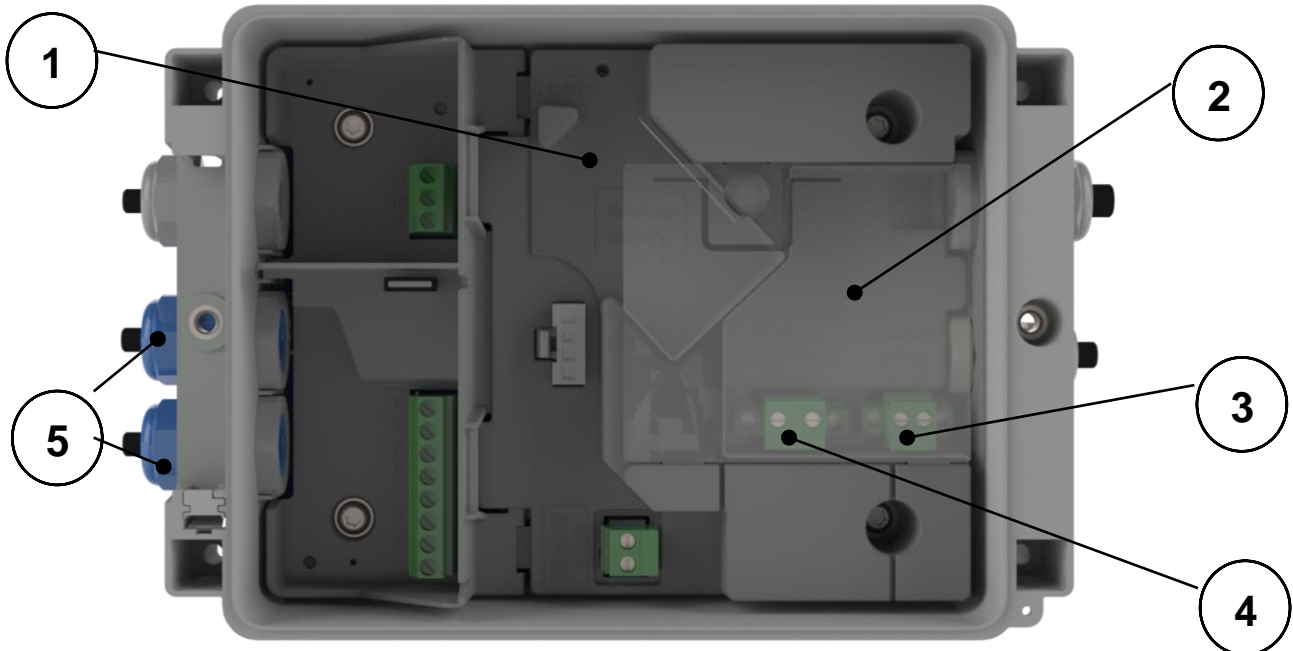
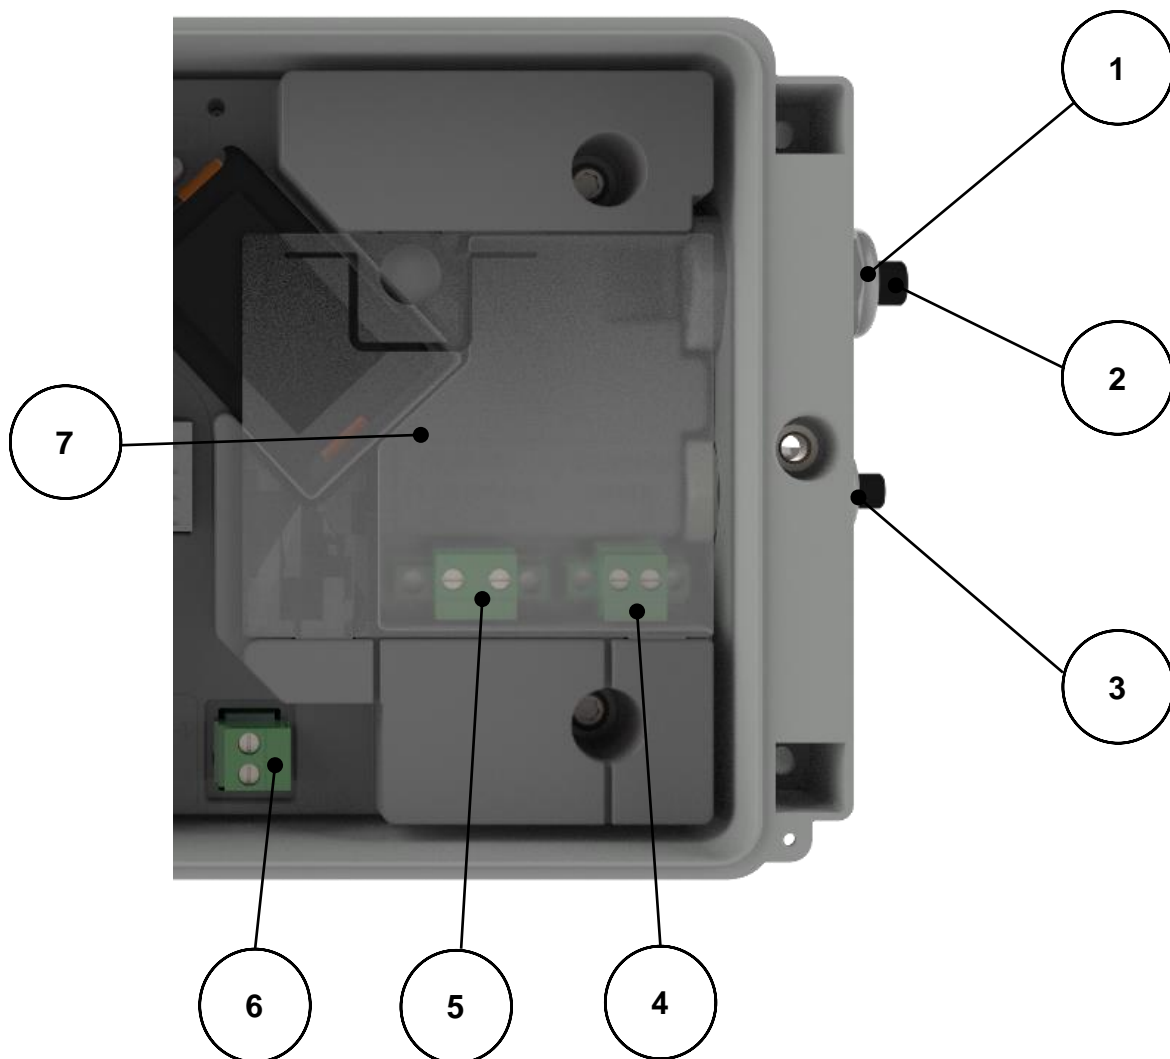

Figure 1
Figure 6
Additional instructions on explosion safety, see figure 1:
3. If a mounted cable is to be removed and reinstalled, for any reason whatsoever, check to see whether the cable is installed correctly, whether there are any loose wires and whether the cable gland has been properly tightened. Also check to see whether the Ex protective cover (2), see figure 1, has been put in place.
4. The mains or external DC voltage should first be removed or switched off for all actions that involve loosening the Ex protective cover (2).
8. Optionally, a back-up battery can be installed. Only an original Wigersma & Sikkema back-up battery pack, type NN2758, may be installed. Installing requires loosening of the Ex protective cover (2), see instructions at point 4.
Only reconnect mains when all cables are connected and the Ex cover (2) has been put in place, see figure 1.
Always place the Ex-protection cap (fig.1, 2 or fig. 6, 7) over the mains connection.
Mains operated UNICOM 300 can also be powered by 24V (15 - 32VDC). The 24V connection is recognizable by the 24V label, and this label must be removed when connecting the 24V. Make sure that the + and - are connected correctly. Incorrect connections will cause the fuse to blow. The device must then be sent to W&S for repair. See also (4) in figure 6.
2. Insert the power cable through the appropriate cable gland (Fig. 6, 1).
3. Connect the power cable to the 230 VAC or 24 VDC terminal in the UNICOM 300 (fig. 6, 5).
4. Screw the terminal and the cable gland tight and fit the Ex-protection cap (fig. 6, 7).
5. Connect the power supply for UNIGAS 300 (Fig. 6, 6) (optional).